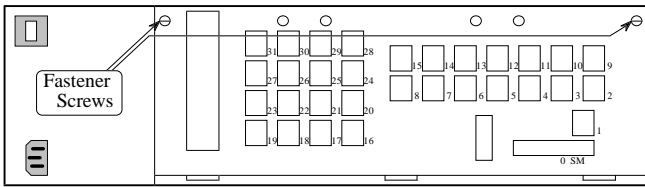

Figure 3 - Location of Fastener Screws on Computer
2. Loosen the two fastener screws holding the back panel to the chassis (see Figure 3).